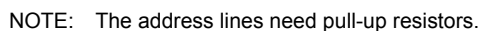

FIGURE 6. APPLICATION FOR DMA SYSTEM
**Current Address Register** - Each channel has a 16-bit Current Address register. This register holds the value of the address used during DMA transfers. The address is automatically incremented or decremented by one after each transfer and the values of the address are stored in the Current Address register during the transfer. This register is written or read by the microprocessor in successive 8-bit bytes. See Figure 6 for programming information. It may also be reinitialized by an Autoinitialize back to its original value. Autoinitialize takes place only after an EOP. In memory-to-memory mode, the channel 0 Current Address register can be prevented from incrementing or decrementing by setting the address hold bit in the Command register.
**Current Word Count Register** - Each channel has a 16-bit Current Word Count register. This register determines the number of transfers to be performed. The actual number of transfers will be one more than the number programmed in the Current Word Count register (i.e., programming a count of 100 will result in 101 transfers). The word count is decremented after each transfer. When the value in the register goes from zero to FFFFH, a TC will be generated. This register is loaded or read in successive 8-bit bytes by the microprocessor in the Program Condition. See Figure 6 for programming information. Following the end of a DMA service it may also be reinitialized by an Autoinitialization back to its original value. Autoinitialization can occur only when an EOP occurs. If it is not Autoinitialized, this register will have a count of FFFFH after TC.
**Base Address and Base Word Count Registers** - Each channel has a pair of Base Address and Base Word Count registers. These 16-bit registers store the original value of their associated current registers. During Autoinitialize these values are used to restore the current registers to their original values. The base registers are written simultaneously with their corresponding current register in 8-bit bytes in the Program Condition by the microprocessor. See Figure 6 for programming information. These registers cannot be read by the microprocessor.
Figure 6 shows an application for a DMA system utilizing the 82C37A DMA controller and the 80C88 Microprocessor. In this application, the 82C37A DMA controller is used to improve system performance by allowing an I/O device to transfer data directly to or from system memory.